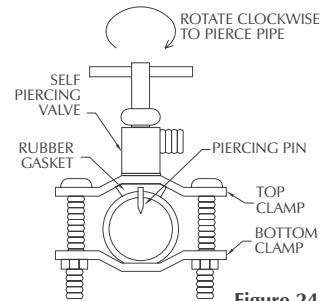

Figure 24
4. To pierce the copper pipe, simply turn valve handle clockwise until you feel that it is firmly seated. (Fig. 24)